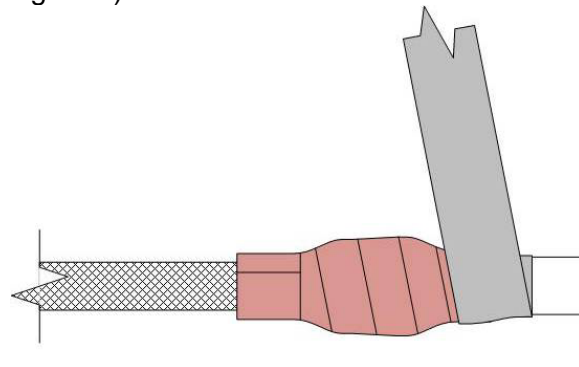

Figure 4
- 3.4.2** Begin to wrap the connector below the coupling ring and StretchSeal tape with one complete revolution on itself. (see figure 4)